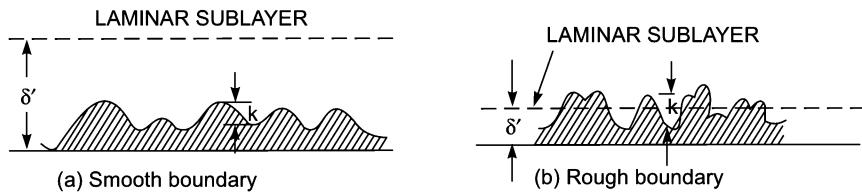

Fig. 10.4 *Smooth and rough boundaries.*
**10.5.1 Hydrodynamically Smooth and Rough Boundaries.** Let  $k$  is the average height of the irregularities projecting from the surface of a boundary as shown in Fig. 10.4. If the value of  $k$  is large for a boundary then the boundary is called rough boundary and if the value of  $k$  is less, then boundary is known as smooth boundary, in general. This is the classification of rough and smooth boundary based on boundary characteristics. But for proper classification, the flow and fluid characteristics are also to be considered.
If the average height  $k$  of the irregularities, projecting from the surface of a boundary is much less than  $\delta'$ , the thickness of laminar sub-layer as shown in Fig. 10.4 (a), the boundary is called smooth boundary. This is because, outside the laminar sub-layer the flow is turbulent and eddies of various size present in turbulent flow try to penetrate the laminar sub-layer and reach the surface of the boundary. But due to great thickness of laminar sub-layer the eddies are unable to reach the surface irregularities and hence the boundary behaves as a smooth boundary. This type of boundary is called hydrodynamically smooth boundary.
Now, if the Reynolds number of the flow is increased then the thickness of laminar sub-layer will decrease. If the thickness of laminar sub-layer becomes much smaller than the average height  $k$  of irregularities of the surface as shown in Fig. 10.4 (b), the boundary will act as rough boundary. This is because the irregularities of the surface are above the laminar sub-layer and the eddies present in turbulent zone will come in contact with the irregularities of the surface and lot of energy will be lost. Such a boundary is called hydrodynamically rough boundary.
For the smooth boundary, there exists a laminar sub-layer as shown in Fig. 10.4 (a). The velocity distribution in the laminar sub-layer is parabolic in nature. Thus in the laminar sub-layer, logarithmic velocity distribution does not hold good. Thus it can be assumed that  $y'$  is proportional to  $\delta'$ , where  $\delta'$  is the thickness of laminar sub-layer. From Nikuradse's experiment the value of  $y'$  is given as
**10.5.3 Velocity Distribution for Turbulent Flow in Rough Pipes.** In case of rough boundaries, the thickness of laminar sub-layer is very small as shown in Fig. 10.4 (b). The surface irregularities are above the laminar sub-layer and hence the laminar sub-layer is completely destroyed. Thus  $y'$  can be considered proportional to the height of protrusions  $k$ . Nikuradse's experiment shows